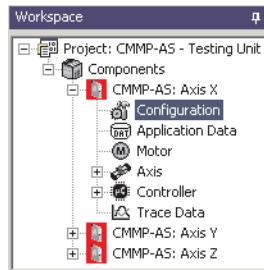

Fig. 4.12 FCT – workstation window
1. Open the “Drive Configuration” work space for the converted CMMP-AS-...-M3 in the FCT (→Fig. 4.12).